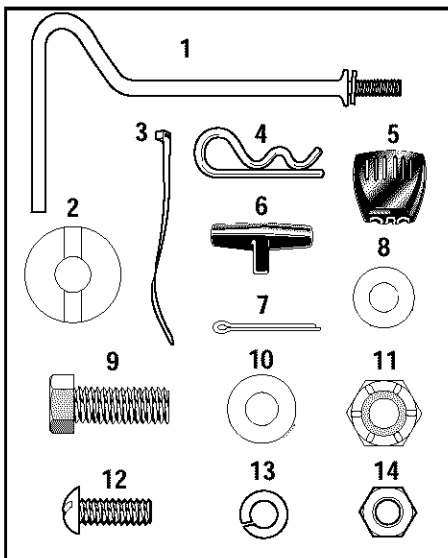
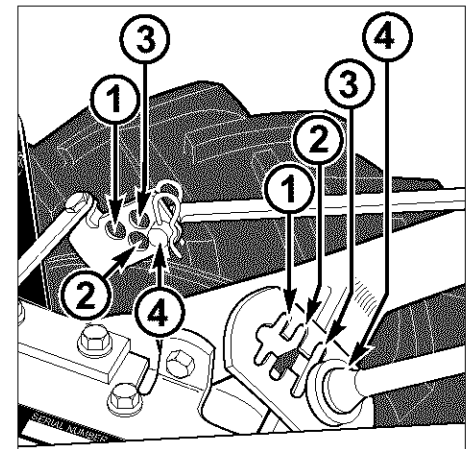

Figure 2-1: Loose hardware (see parts list above).
Figure 2-8: Numbered settings for handlebar height slots and clutch swivel plate holes.
4. Remove the separate hardware bag from the carton. Check that you have the items listed next and shown in Figure 2-1 (parts shown at reduced sizes). Contact your local dealer or the factory if any items are missing or damaged.
3. Install a 5/16" flat washer (8, Figures 2-1 and 2-6) and secure it with a 5/8" long straight cotter pin (7) through the bottom hole in the lever. Spread the legs of the straight cotter pin apart and bend them over to prevent the pin from coming loose.
2. Insert a hairpin cotter down through the hole in the rod that is located closest to the bend (see 4, Figures 2-1 and 2-7).
3. There are four numbered holes in the clutch swivel plate and four numbered slots in the curved height adjustment bracket (see Figure 2-8). For correct operation of the Forward Clutch rod, the numbered hole used for the Forward Clutch rod must match with the numbered slot in the height adjustment bracket. For example, if the handlebar is set into slot #1, then the Forward Clutch rod must be installed into hole #1 of the clutch swivel plate.
4. Select the proper hole in the clutch swivel plate and insert the Forward Clutch rod so that the tip faces inward (see Figure 2-8). *Secure the rod by inserting a second hairpin cotter (4, Figures 2-1 and 2-7) through the hole near the tip of the rod.*
(1) First check that the Forward Clutch rod is in the correct hole in the clutch swivel plate (Figure 2-8). If not, reposition the rod and repeat Step 5b.
(2) If the Forward Clutch rod is in the correct hole and the gap is incorrect, you will need to adjust the length of the Forward Clutch rod. To do this, first release the Forward Clutch lever and then disconnect the rod from the clutch swivel plate (remove hairpin cotter at end of rod and pull rod out of hole in clutch swivel plate).
If the gap is less than 3/16", rotate the rod clockwise (as viewed from the front of tiller) to increase the gap. Reinstall the rod into the correct clutch swivel plate hole (Figure 2-8), secure it with the hairpin cotter, and repeat Steps 5a and 5b.